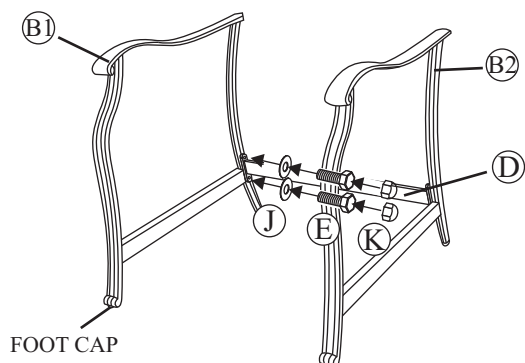

Fig. 1
- 1 Attach the leg support to the chair legs (B1 & B2) by using the 1/4"x20 mm bolts and washers as shown in Fig. 1. Guide these bolts through the holes in the leg support, into pre-drilled holes in the chair legs. **Hand tighten only.**